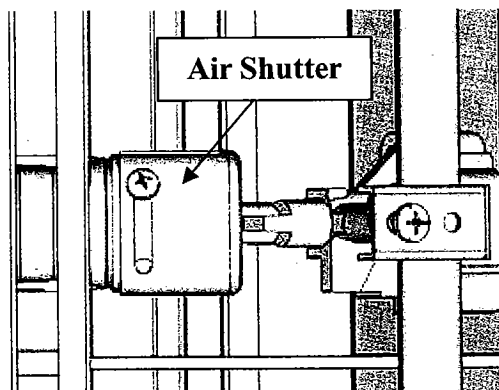

Fig. 47 Air Shutter
- a. Loosen the air shutter. The shutters are located on the end of the gas burners underneath the control box. See Fig. 47